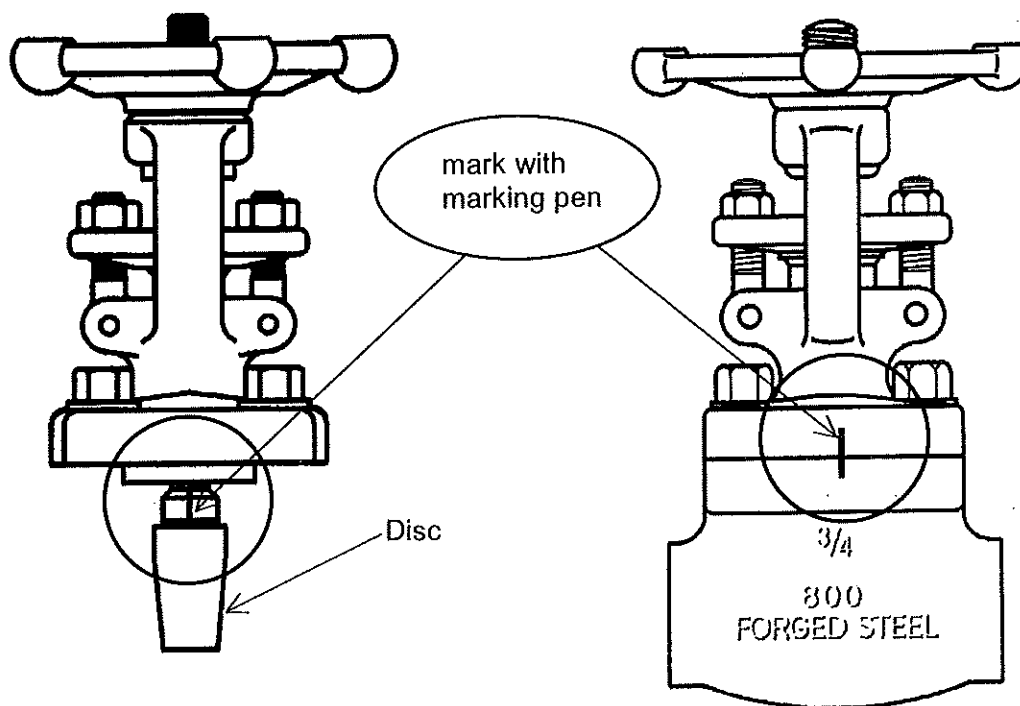

Figure 6.1 Example for Marking Method of Match mark
- Make the match mark on the body-bonnet joint by marking pen as shown in Figure. 6.1 before loosening the bonnet bolts. When assemble the valve, body and bonnet shall be fitted by match mark.
- ① Turn the handwheel of the fully closed valve to the left to obtain an intermediate valve opening. Since the body seat rings and disc of the closed gate valve are in close contact, it is difficult to disassemble the valve as it is. Therefore, it is necessary to open such valve to an intermediate position so it makes disassembling easier.
- ② Remove four bonnet bolts in diagonal line by turning them to counter-clockwise under the condition as it is. If there is remaining pressure inside the valve, there is leakage together with the escaping sound at this moment. Leave the disassembling valve until the escaping sound disappears and confirm that remaining pressure disappears and keep the safety of work.
- ③ Lightly tap the bonnet flange and remove the assembly of the valve disc, stem and bonnet from the body. When the gasket only to be replaced, the gasket can be removed out from the body, at this stage.
- ④ Remove the disc from the stem. Caution shall be so taken as not to cause damages to its seating faces. For re-assembling the valve, the valve disc shall be marked a match mark as shown in Figure 6.1. As it is, valve seat surfaces are coincided as before condition and valve leakage can be prevented.
- ① Turn the handwheel of the fully closed valve to the left to obtain an intermediate valve opening. Since the body seat rings and disc of the closed globe valve are in close contact, it is difficult to disassemble the valve as it is. Therefore, it is necessary to open such valve to an intermediate position so it makes disassembling easier.
- ④ Remove the disc from the stem.
- ⑤ Hold the bonnet by a holder (vice and etc.) at the bonnet flange.
- ⑥ Remove the nut and washer.
- ⑦ Remove the handwheel.
- ⑧ Remove the gland bolt nuts and then loosen and pull out the gland flange.
- ⑨ Under this condition, pull out the stem by turning it to the clock-wise direction.
- Make the match mark on the body-bonnet joint by marking pen as shown in Figure 6.1 before loosening the bonnet bolts. When assemble the valve, body and bonnet shall be fitted by match mark.
- ① Remove four bonnet bolts in diagonal line by turning them to counter-clockwise under the condition as it is. If there is remaining pressure inside the valve, there is leakage together with the escaping sound at this moment. Leave the disassembling valve until the escaping sound disappears and confirm that remaining pressure disappears and keep the safety of work.
- ② Remove the bonnet. At this stage, the gasket can be replaced with a new one.
- ③ Remove the valve disc from the valve body.